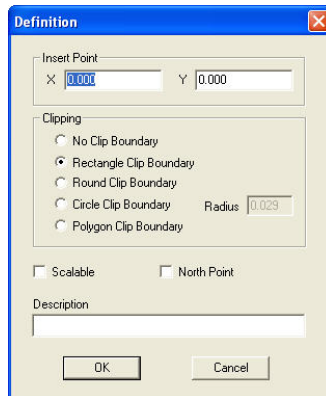

Figure 16-20. Defining Parameters for a New Symbol
- Click the **Hot Button**  at the bottom of the dialog box. The *Definition* dialog box appears (Figure 16-20).
The *Definition* dialog box appears (see Figure 16-20 on page 16-31).